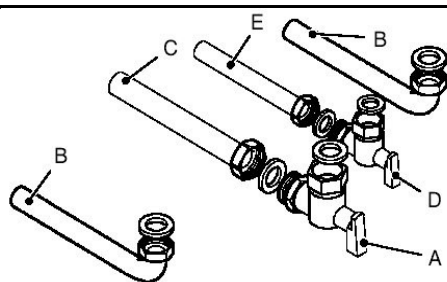

Fig. 5.23
4. Fix the gas cock A (3/4") to the boiler using the 3/4" gasket (Fig. 5.23)